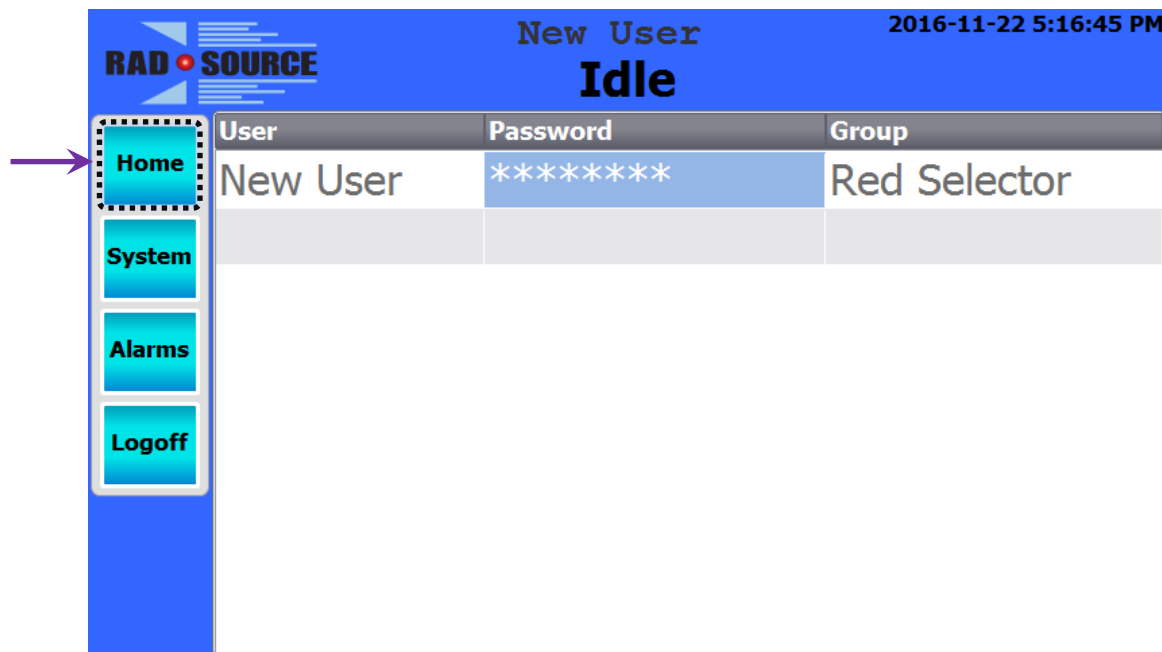

Figure 31: Home Button
- Press *Home*, then *Automatic*, or, in *Automatic*, press *Refresh*. (See Fig. 31 and 46.)
1. Press *Home*. (See Fig. 31.)